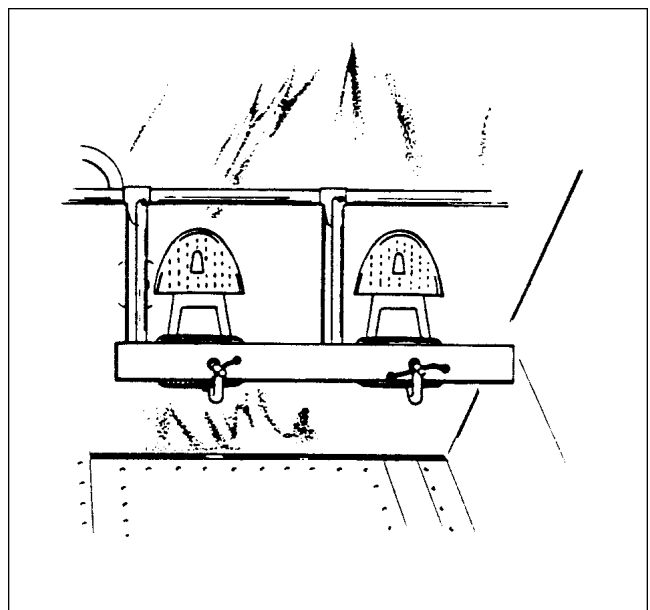

Figure 5-18. Clamping Rudder Pedals
3. Clamp the rudder pedals, so they align in a lateral position as shown in Figure 5-18.